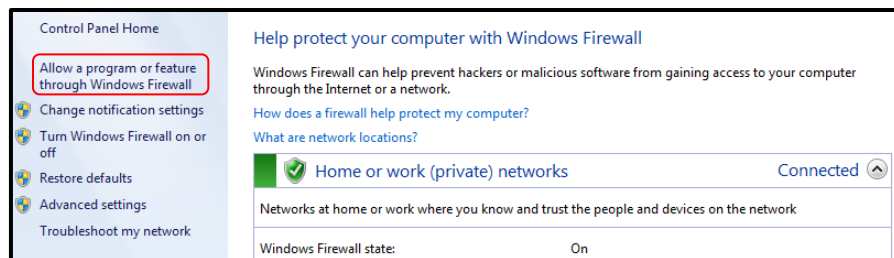

Figure 83 - Allowing a program through Windows Firewall
2. In the left sidebar, click the "Allow a program or feature through Windows Firewall" link. Refer to Figure 83.